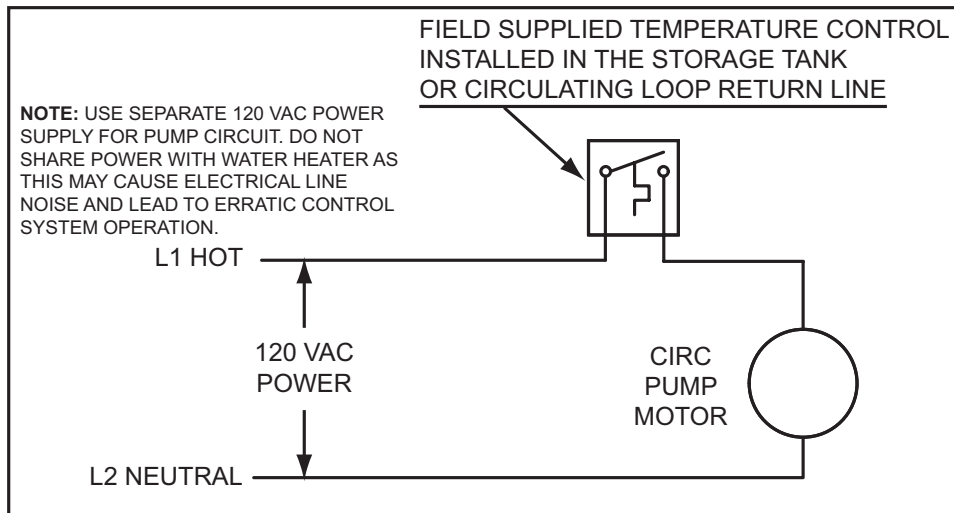
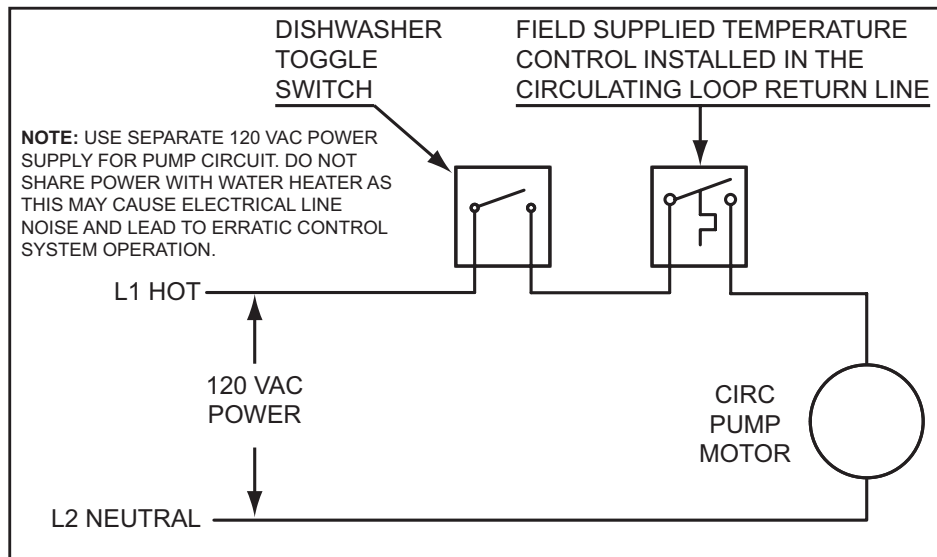

Figure 68
Figure 69
6. If a pump is being installed between a water heater and storage tank or on a building recirculation loop wire according to Figure 68 on page 67.
7. If a pump is being installed in a recirculation loop between the water heater and a commercial dishwasher wire according to Figure 68 or Figure 69 on page 67.